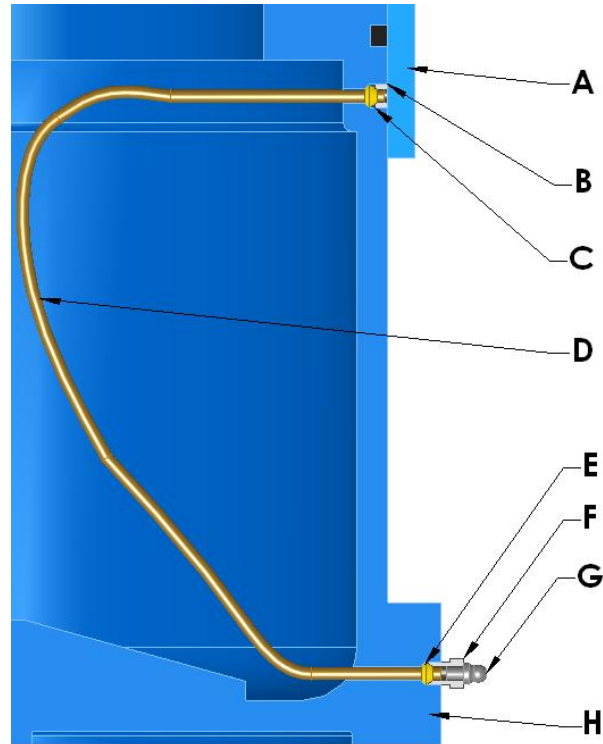

Fig. 11 Model C, D, MC and MD Lubrication
Under severe vibrating conditions the 3/16" copper tubing, "D" (see Fig. 11), may have a tendency to fracture just behind compression sleeve "C". In the event an air leak develops, this can be very readily checked by removing compression fitting "F", and inspecting the compression sleeve to make sure the seat is tight against the cushion piston and that no fractures are visible in the tubing.
3. Press the grease fitting (no 625) into the compression fitting. Make sure that copper tubing is deep enough inside the compression fitting so that the grease fitting fits inside the compression fitting (as shown in Fig. 11).